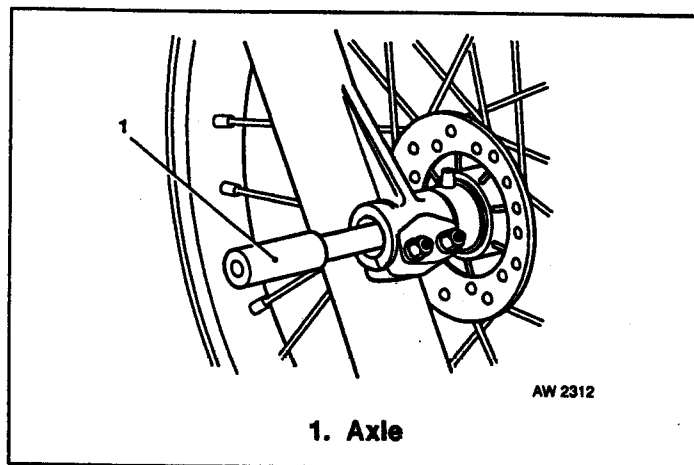

Fig 11.3 Remove Front Axle
- c. Fig 11.3 refers. Support wheel by hand and remove front axle.